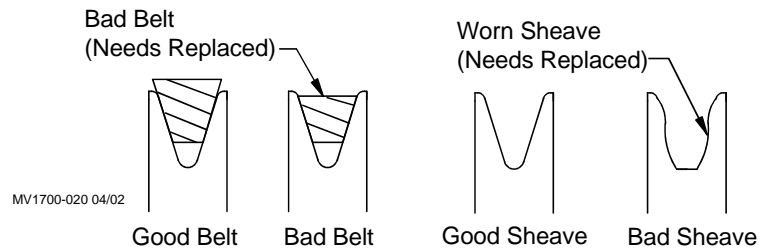

Figure 13. Worn Sheave
- Periodically check the V-Belt and replace if necessary. A bad Belt will cause a substantial drop in Fan performance or can break and cause Fan failure. If a Belt rides below the Sheave edge, replace the Belt. (See Figure 13)
- Check Sheaves for wear. Replace if Sheave groove is worn. (See Figure 13 to the Right).